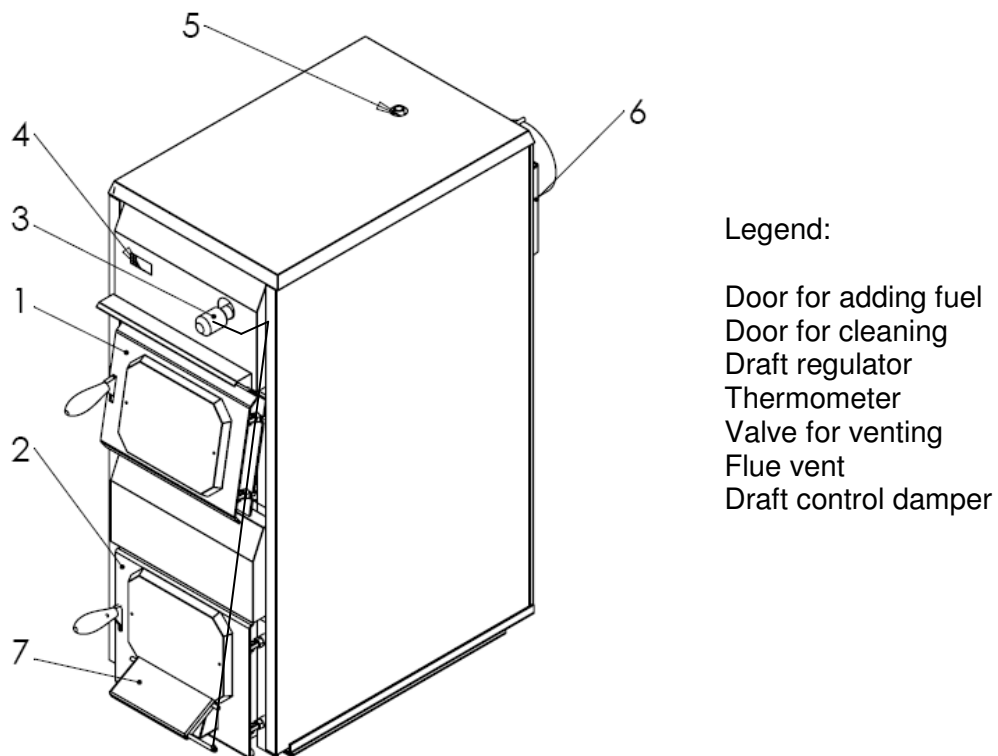

Figure 9. Boiler TKP
Figure 9 shows the basic terms which are necessary for proper operation and maintenance of the boiler
Door for adding fuel (Figure 9, position 1) and the door for cleaning (Fig. 9, pos. 2) have mechanical shutter. When checking the fuel or when filling, it is necessary first to open the door
Regulation of the boiler power is controlled with draft regulator (Fig.9, pos. 3) which is screwed into the body of the boiler.
Reading the water temperature is controlled with a thermometer (Fig. 9, pos. 4)